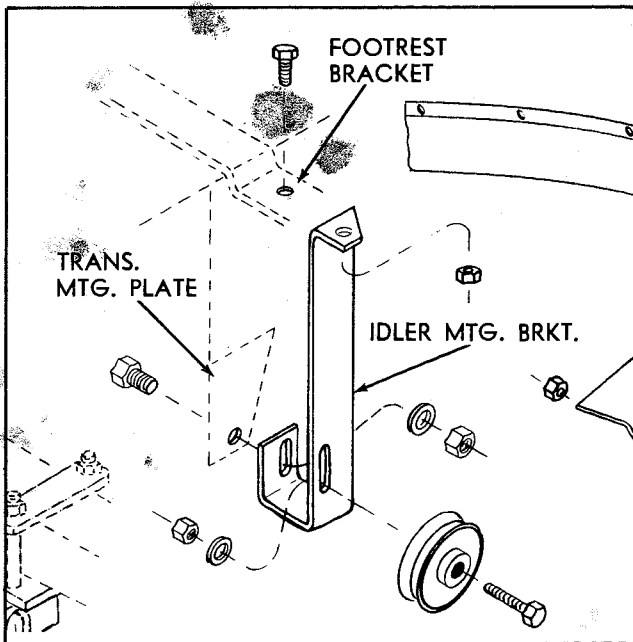

FIGURE 2
3. Mount Idler Pulley in center of slotted hole of Idler Mounting Bracket with $\frac{3}{8}$ -16 bolt, washer, and nut as shown in Figure 2.
4. Secure the Idler Mounting Bracket to Transmission mounting plate with $\frac{1}{2}$ -13 Bolt, washer, and nut. Fasten at top to the footrest bracket with $\frac{5}{16}$ -18 bolt, and nut as shown in Figure 2.